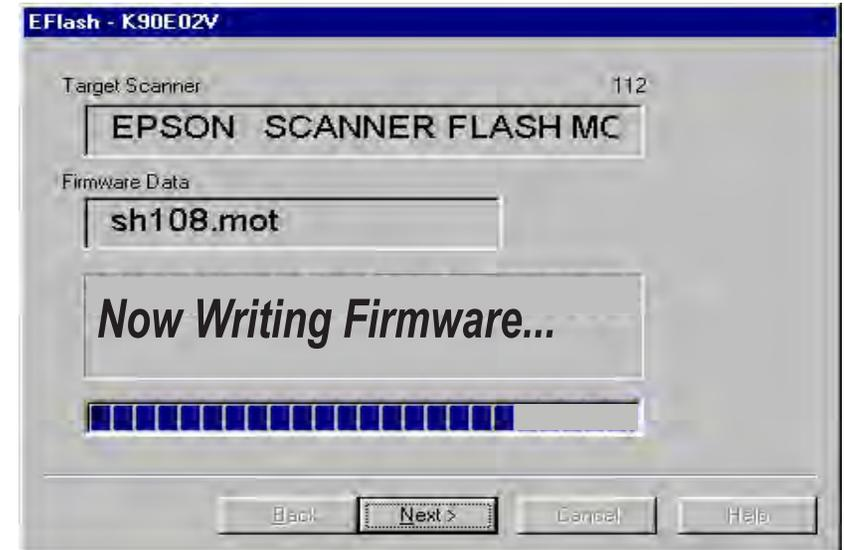

Figure 5-8.
5). Click “OK” to start writing the firmware. Writing status is indicated by the progress bar as shown in Figure 5-8 below. When writing process is complete, “REBOOT SCANNER!” message will appear on the screen again.
2. Select the SCSI ID 9 with the rotary switch as shown in Figure 5-8 (factory default is 2). ID 9 is not indicated on the switch panel; however, when turning the switch counterclockwise from 0, the next ID is 9.